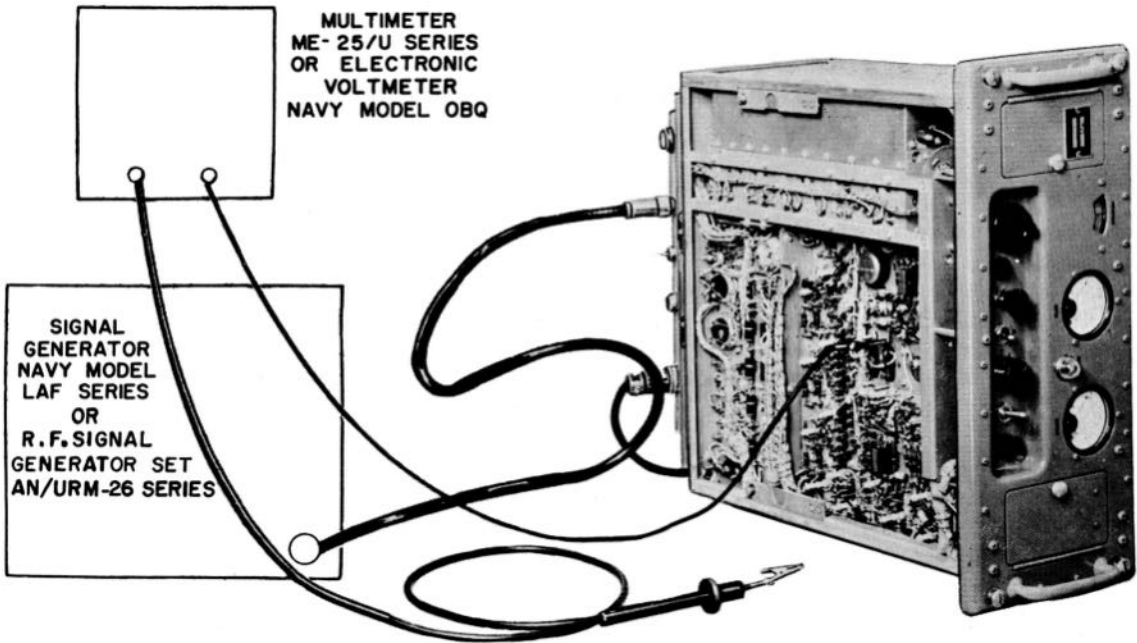
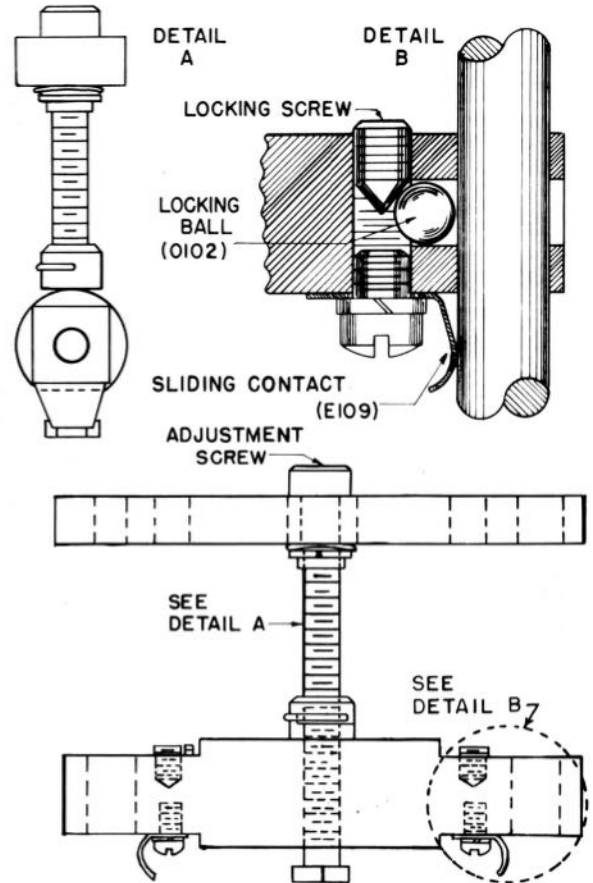

Figure 7-2. Bench Set-up for Alignment of R-f Section of Receiver
Figure 7-7. Details of Trimmer Inductances L103, L104, L107, L108, L111, and L112 (Preselector)
d. ALIGNMENT OF THE R-F SECTION OF THE RECEIVER (PRESELECTOR). (See figure 7-2).
The bench set-up for alignment of the preselector unit is shown in figure 7-2. Before beginning alignment remove the preselector shielding covers and loosen the inductance trimmer locking screws (figure 7-7) slightly (about $\frac{1}{8}$ th turn) by means of the
(7) With modulation OFF tune the Navy model LAF series signal generator for a maximum reading on the electronic multimeter. The output attenuator should be adjusted to give a reading of approximately 0.6 volts on the VTVM.
(8) Using the alignment tool, tune the r-f amplifier and mixer inductance trimmer screws (figure 7-7) for a maximum reading on the VTVM, in the following order:
ductance trimmer locking screws (figure 7-7) carefully, so that the adjustments will not be disturbed.